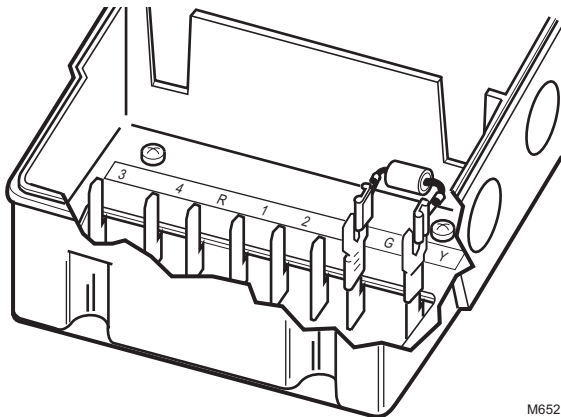

Fig. 11. Attaching a shunt resistor to TRADELINE motors.
- Slaving a Series 90 Motor requires full-stroke feedback resistance of 142 ohms. Select and attach the proper shunt resistor across terminals Y and G (see Table 5 and Fig. 11).